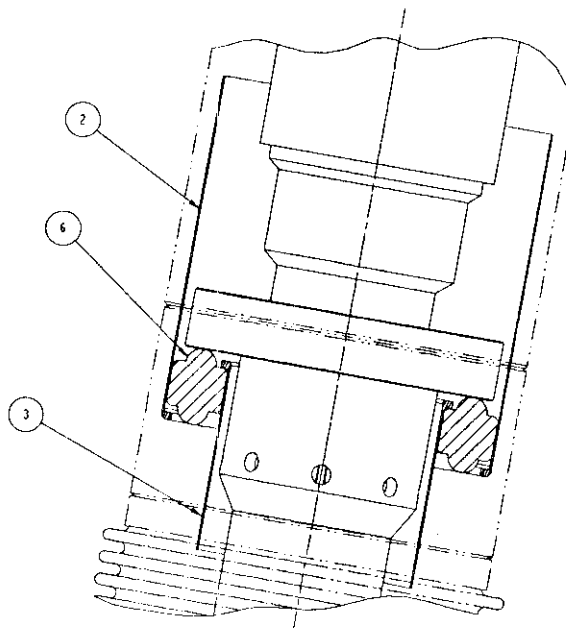

Figure 1.3 2 – Upper Insulator, 3 – Lower Insulator, 6 – PEEK Seal
- 1.3 Position the upper insulator in each chimney according to Figure 1.3.
- 1.4 Position the PEEK seal in each chimney according to Figure 1.3.
- 1.5 Position the lower insulator in each chimney according to Figure 1.3.